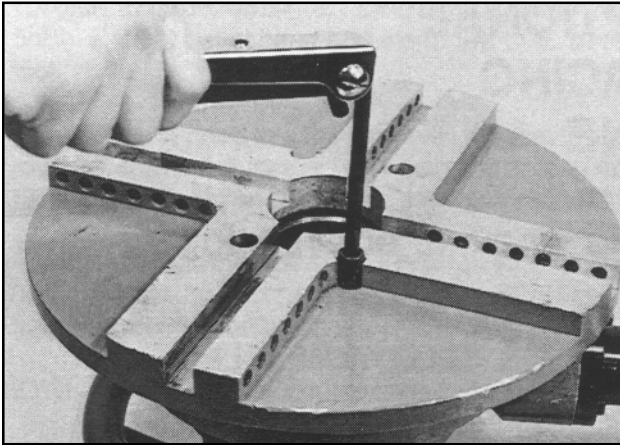

Fig. 1
(Fig. 1)
1. Remove the mandrel from the machine body. Next, loosen and remove the four 3/8-16 x 1-1/4" shcs securing the rotating tool holder plate (Fig. 1).